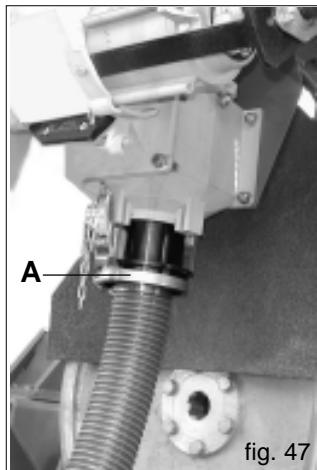

fig. 47
- b) Remove the bend under the injecting tube, and then attach the collecting tube supplied with the machine (A Fig. 47) in the same position and place a collecting container at the other end of the tube; turn the transmission wheel in the direction of travel using the handle.